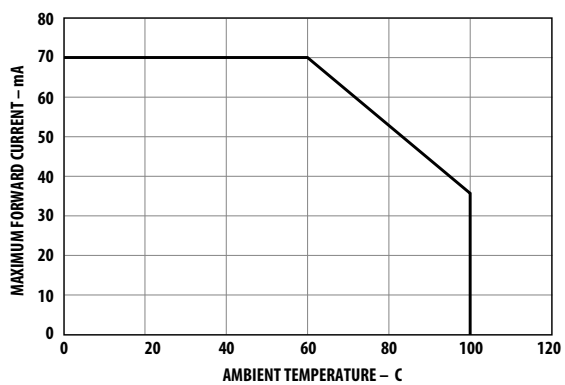

Figure 4. Maximum forward current vs. ambient temperature. Derated based on  $T_{jMAX} = 125^{\circ}C$ ,  $R_{\theta JA} = 300^{\circ}C/W$ .
- Derate linearly as shown in figure 4.